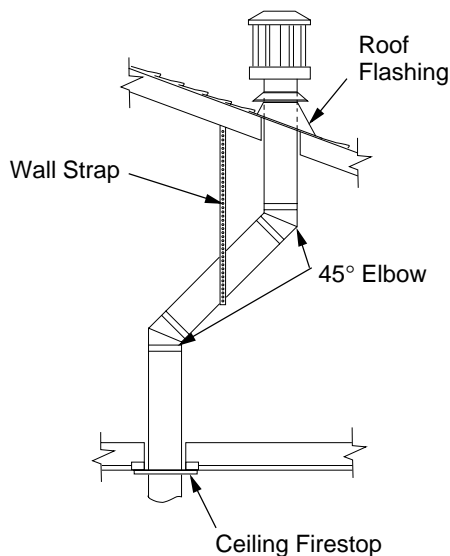
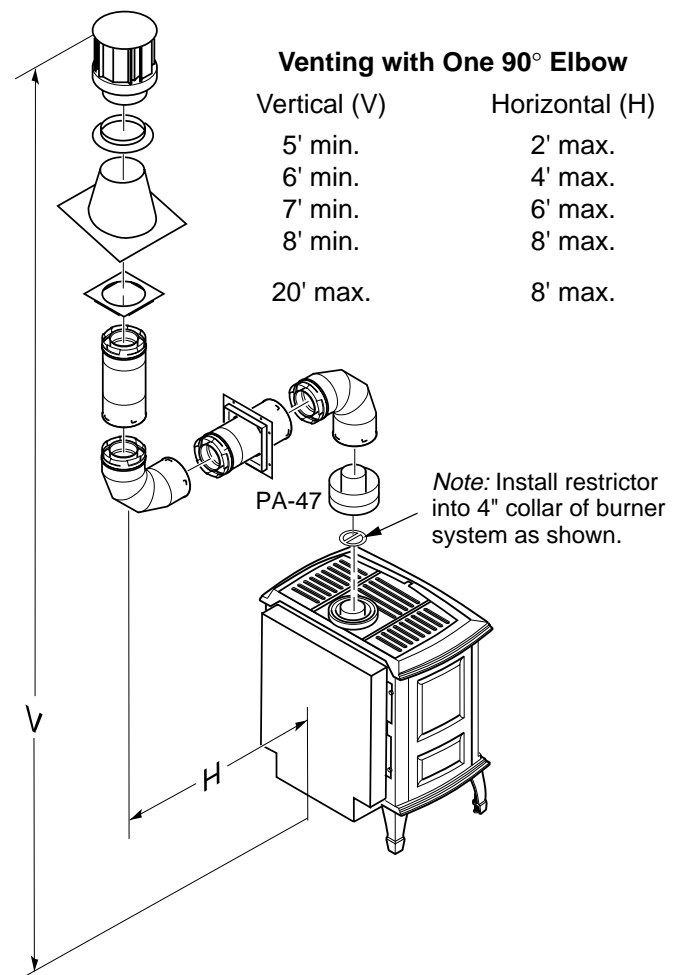

Figure 32 - Offset with Wall Strap and 45° Elbows
Figure 36 - Vertical Venting Configuration Using One 90° Elbow
1. Determine the route your vertical venting will take. If ceiling joists, roof rafters, or other framing will obstruct the venting system, consider an offset (see Figure 32) to avoid cutting loadbearing members. *Note:* Pay special attention to these installation instructions for required clearances (air space) to combustibles when passing through ceilings, walls, roofs, enclosures, attic rafters, etc. Do not pack air spaces with insulation. Also note maximum vertical rise of the venting system and any maximum horizontal offset limitations. Offsets must fall within the parameters shown in Figures 36 through 38, pages 17 and 18.
Note: If an offset is needed to avoid obstructions, you must support the vent pipe every 3 feet. Use wall straps for this purpose (see Figure 32). Whenever possible, use 45° elbows instead of 90° elbows. The 45° elbow offers less restriction to the flow of the flue gases and intake air.
5. Place the flashing over the pipe section(s) extending through the roof. Secure the base of the flashing to the roof and framing with roofing nails. Be sure roofing material overlaps the top edge of the flashing as shown in Figure 32. There must be a 1" clearance from the vent pipe to combustible materials.
Figure 36 through 39 show four different configurations for vertical termination. All connections must be sealed with high temperature silicone sealant as specified in the second warning statement on page 12.